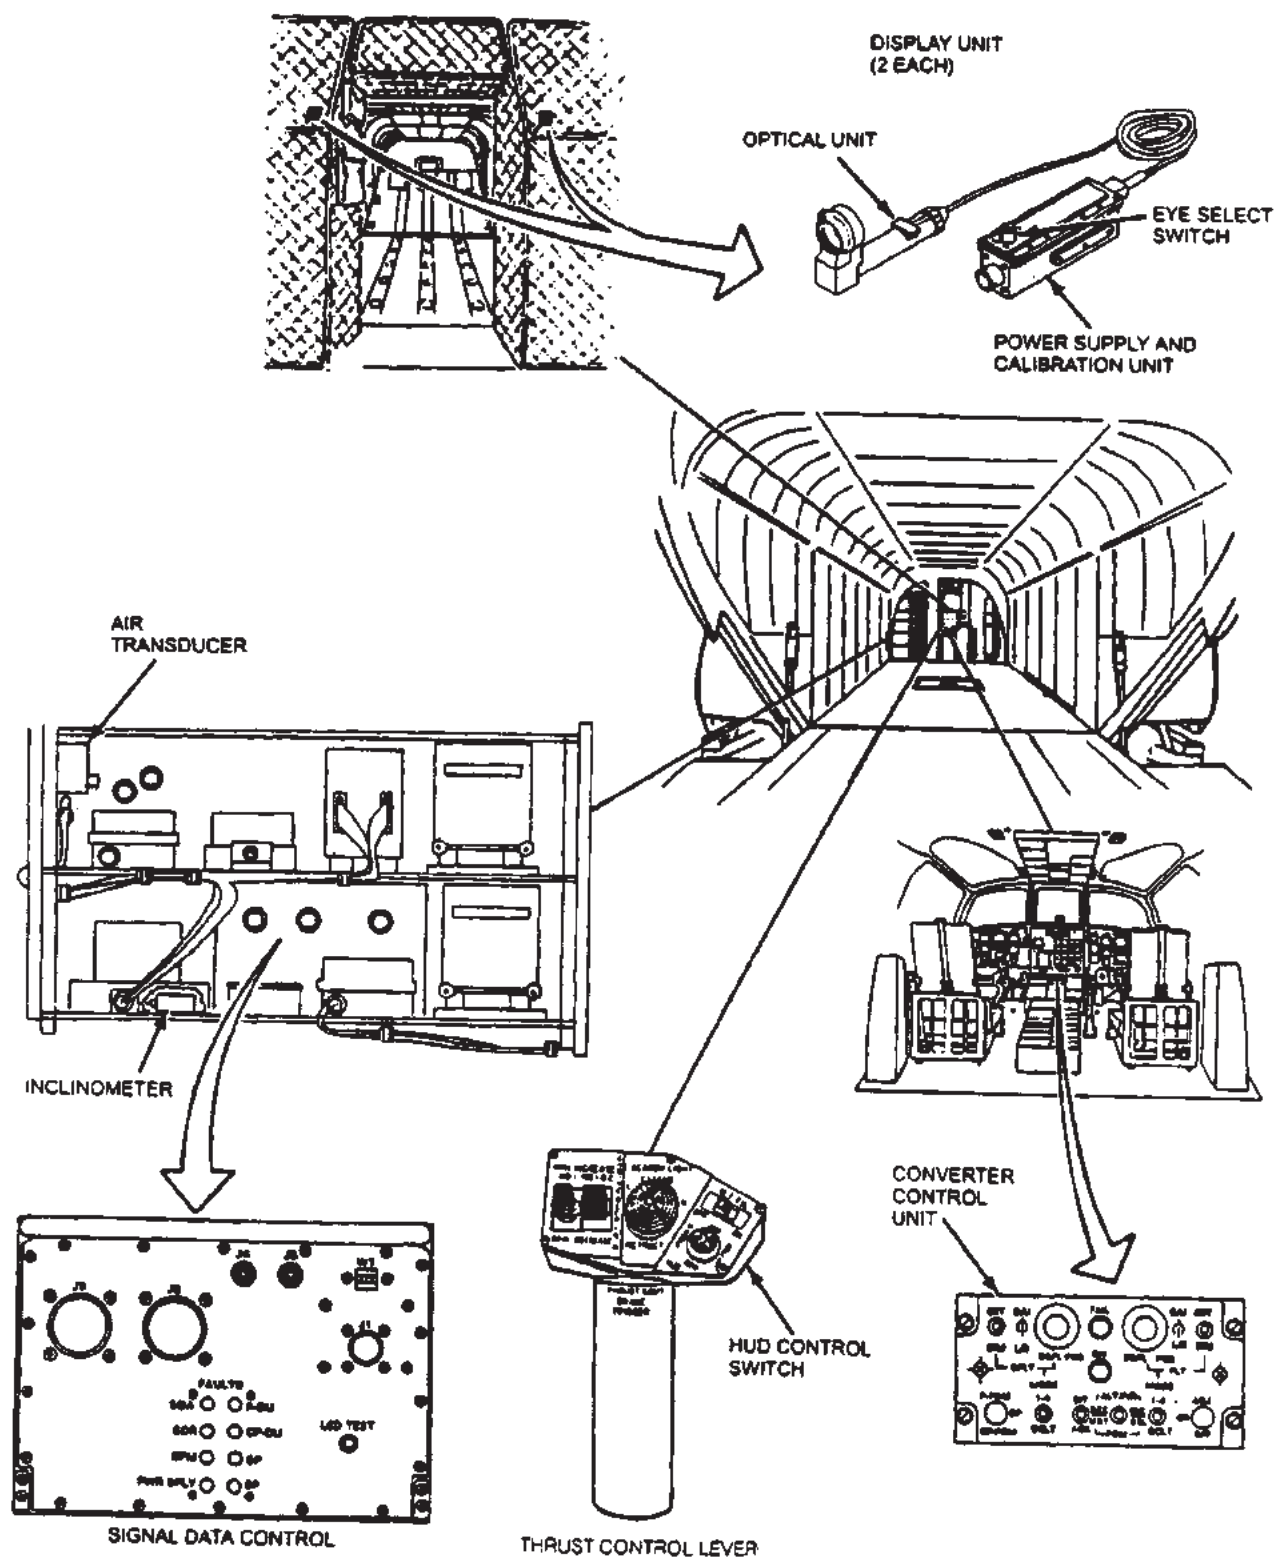

Figure 4-1-8. Heads Up Display AN/AVS-7
The Heads Up Display (HUD) System (fig. 4-1-8) serves as an aid to pilots using the AN/AVS -6 (ANVIS) during night flight operations. The system allows the pilot and copilot to receive flight data without viewing the instrument panel. Instrument data is applied to the system, processed for display, and superimposed over the AN-VIS image. The set consists of the Converter Control Unit (CCU) on the console, the Signal Data Converter (SDC) on the avionics shelf, an inclinometer and air data transducer both located on the avionics shelf, a HUD control switch on the pilot's/copilot's THRUST CONT (control) lever, and the Display Unit (DU), consisting of the Optical Unit (OU) and Power Supply Calibration Unit (PSCU). The CCU selects pilot/copilot programming which allows the pilot and copilot to select information for their respective display modes from a master set of symbols. The pilot and copilot can independently program up to eight display modes, four normal and four declutter, which can be selected for display. Declutter can be used when less symboling is needed. The declutter mode has four vital
4-1-28. Controls and Function, Converter Control Unit. (fig. 4-1-8)
4-1-29. Controls and Function, Pilot/Copilot HUD Control (THRUST CONT LEVER). (fig. 4-1-8)